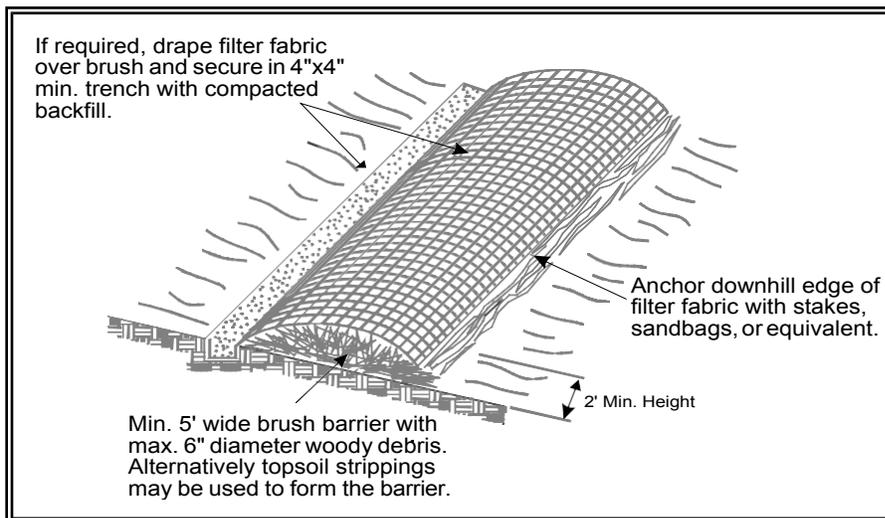

Figure 4.2.11 – Brush Barrier
- A 100 percent biodegradable installation can be constructed using 10-ounce burlap held in place by wooden stakes. Figure 4.2.11 depicts a typical brush barrier.